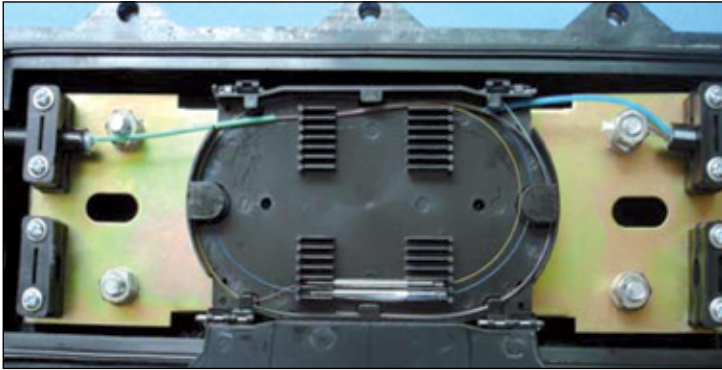

Figure 6a
- 6 Fix the weld fiber optics to the in-and-out port of the fiber splice and Put splice tray cover on. As shown in **Figures 6a and 6b.**